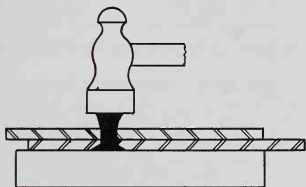

Fig. 4-95. Upsetting a rivet.
- Upset the rivet by striking the end with the flat face of the ball-peen hammer, Fig. 4-95. This causes the rivet to expand and fill up the holes. If the rivet is to be formed, shape the flattened end of rivet by striking it with the peen end of the hammer. If the back of the rivet is to be flat, strike